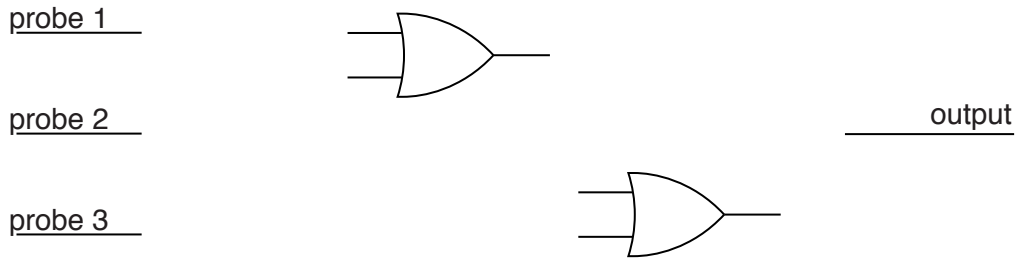

Fig. 17
- (iii) Three conductive probes could be used with their outputs combined using logic. Connect the logic gates in Fig. 17 so that the combined output will produce a high signal when at least one high signal is present at the inputs.